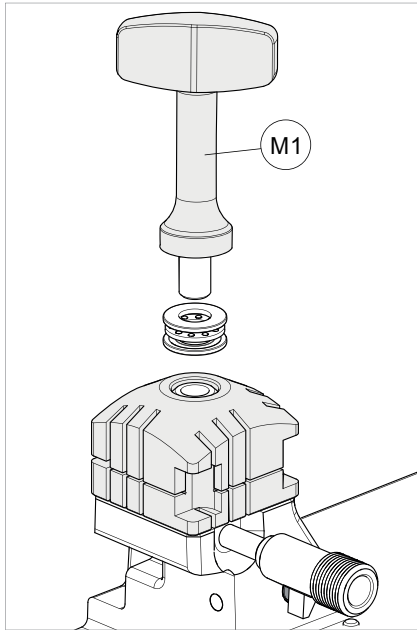

Fig. 41
- 2) Unscrew the knob (M1) and remove together with the washer set (Fig. 41).